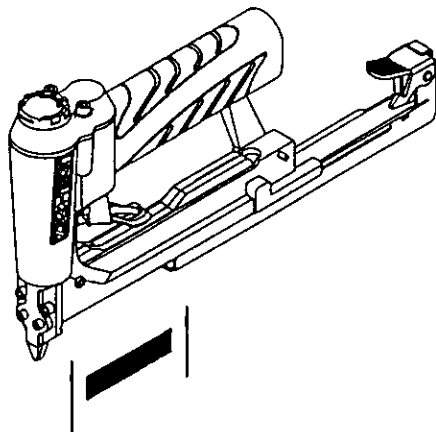

Figure 2 - Loading Pins
Refer to Figures 2 & 5 (pages 3 and 6).
- Turn tool upside down. Depress latch (Fig. 5, No. 47) and slide magazine cover (Fig. 5, No. 46) back to open. Insert fasteners into magazine (see Figure 2). Be sure fasteners point away from tool.